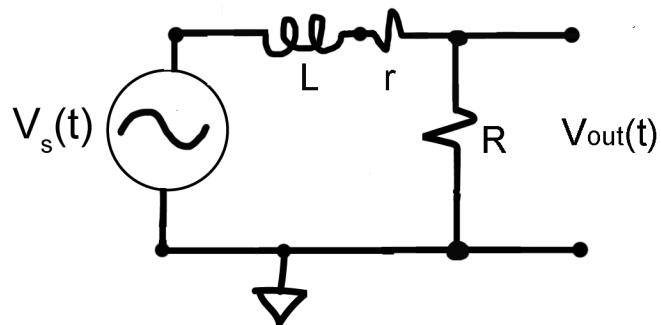

Figure 6.3
**Q.5** Design a LR low-pass filter with  $f_{3\text{dB}} = 8.0 \text{ kHz}$  (Figure 6.3). Include a **SCREENSHOT** from the oscilloscope of the rough performance that shows that the 3dB point is within design criteria. A nice way to accomplish this is with an image of the frequency sweep.